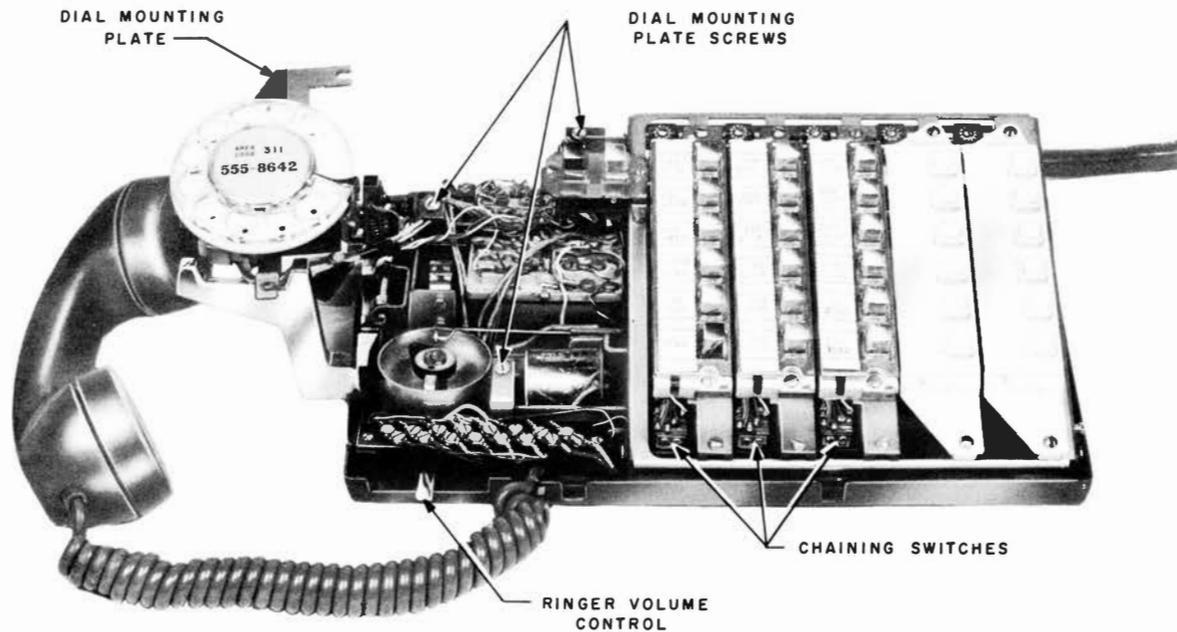

Fig. 7 – 639-Type Telephone Set, Dial Mounting Plate Lifted
5. Loosen screws on each side of dial mounting plate and remove the dial. (See Fig. 7.)